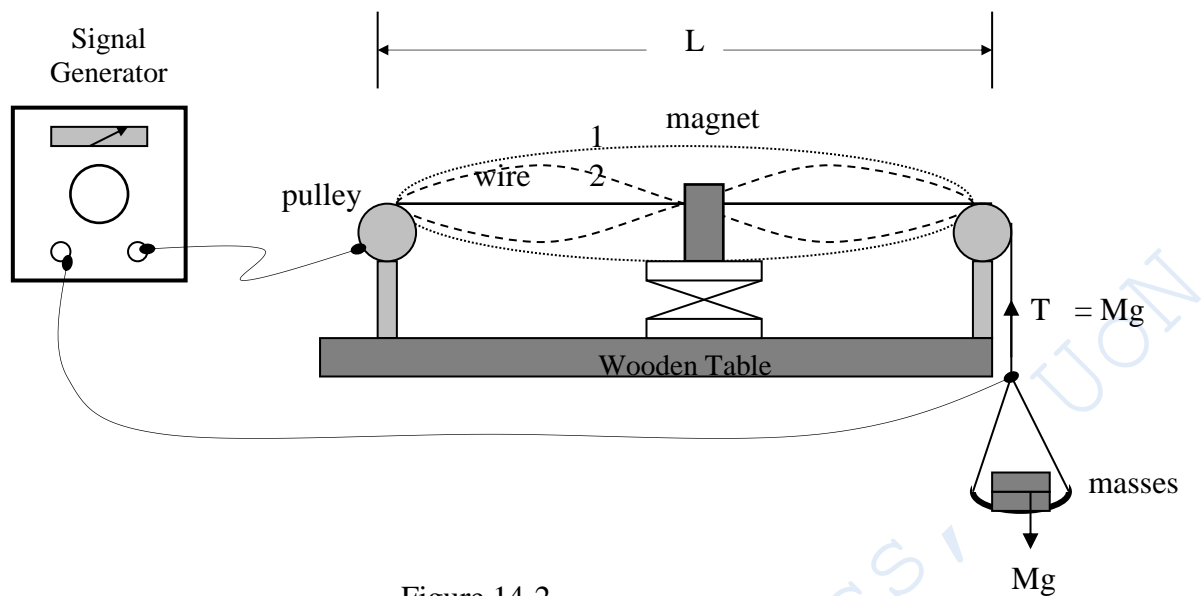

Figure 14-2
1. Set up the apparatus as shown in Fig. 14-2. Length L should be between 1.0 and 1.5 m. *Note: that the position of the magnet is not very critical as long as it is not located at a node preferably it is to be located at an anti-node.*